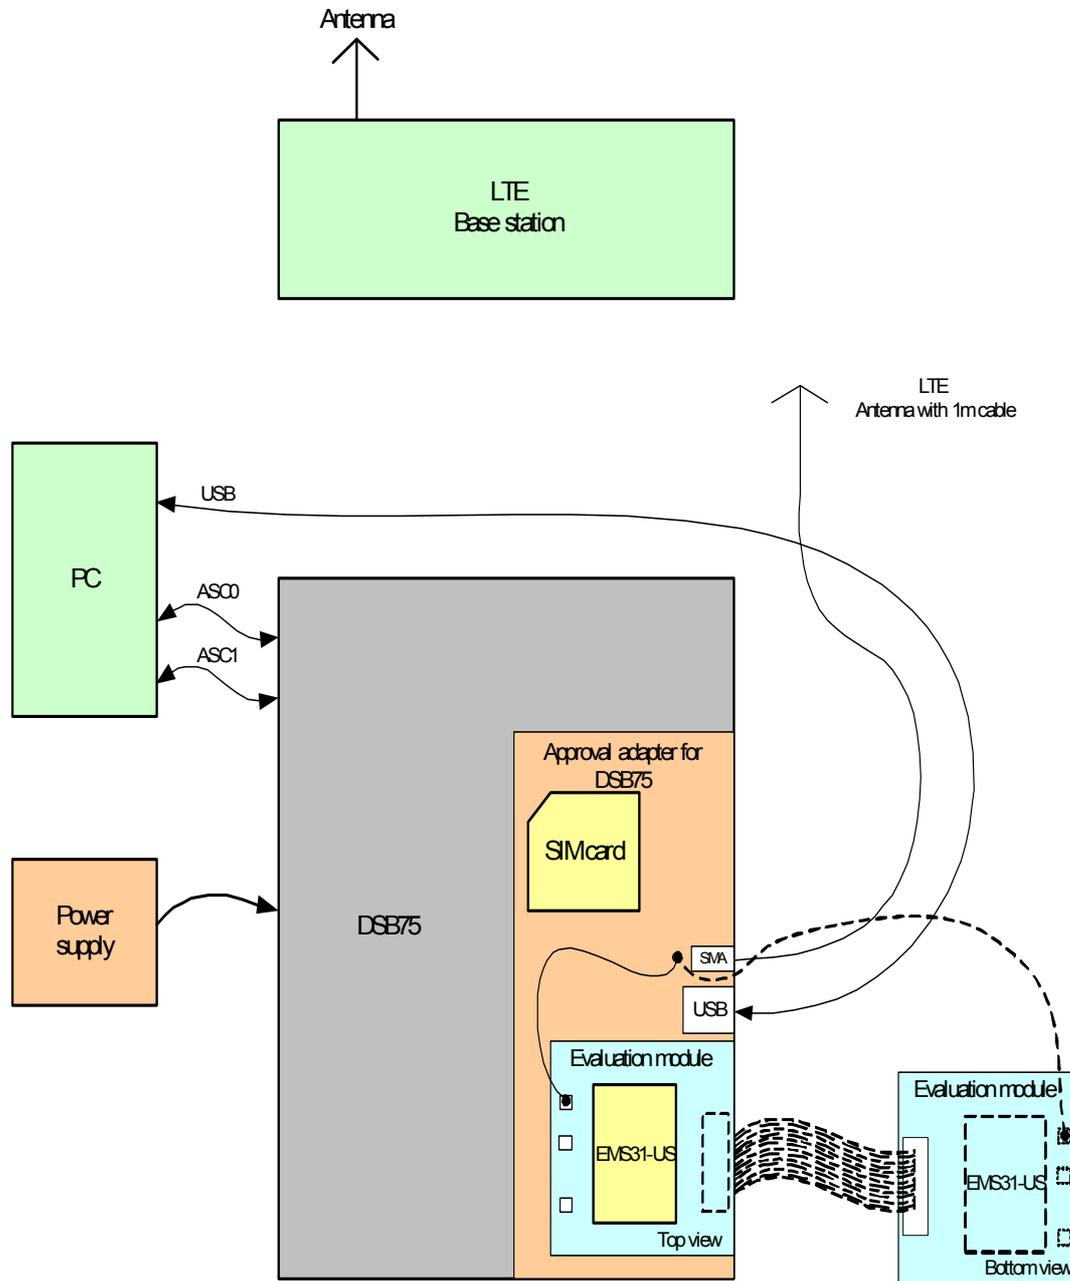

Figure 9: Reference equipment for Type Approval
1. For RF performance tests a mini-SMT/U.FL to SMA adapter with attached 6dB coaxial attenuator is chosen to connect the evaluation module directly to the LTE test equipment instead of employing the SMA antenna connectors on the EMS31-V-DSB75 adapter as shown in Figure 9. The following products are recommended: